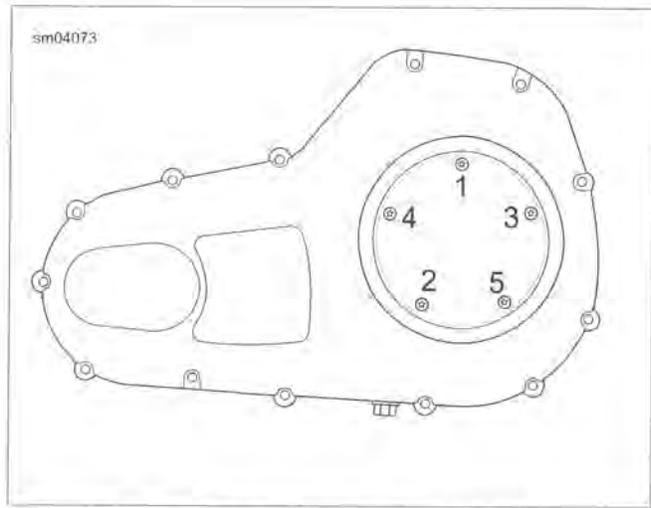

Figure 5-39. Clutch Inspection Cover Torque Sequence
2. See Figure 5-39. Install clutch inspection cover with **new** gasket. Make sure the correct side of the gasket faces the clutch inspection cover. In sequence shown, tighten fasteners to 84-108 **in-lbs** (9.5-12.2 Nm).